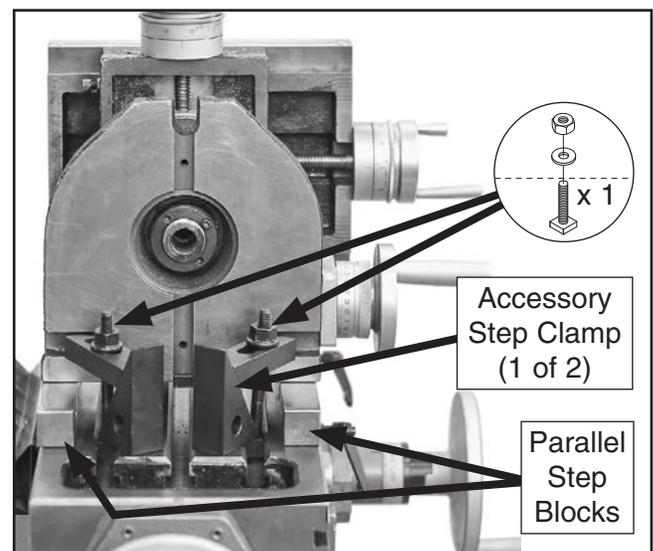

Figure 15. T1243 secured to milling machine table using parallel step blocks.
4. Insert (1) M10-1.5 x 60 T-bolt in each milling machine table T-slot.
5. Install (1) hold-down clamp (or (1) accessory step clamp), (1) 10mm flat washer, and (1) M10-1.5 hex nut on each T-bolt (see **Figure 15**), then tighten securely. Holding cross-slide rotary table rigid will help with accuracy, efficiency, and general safety.